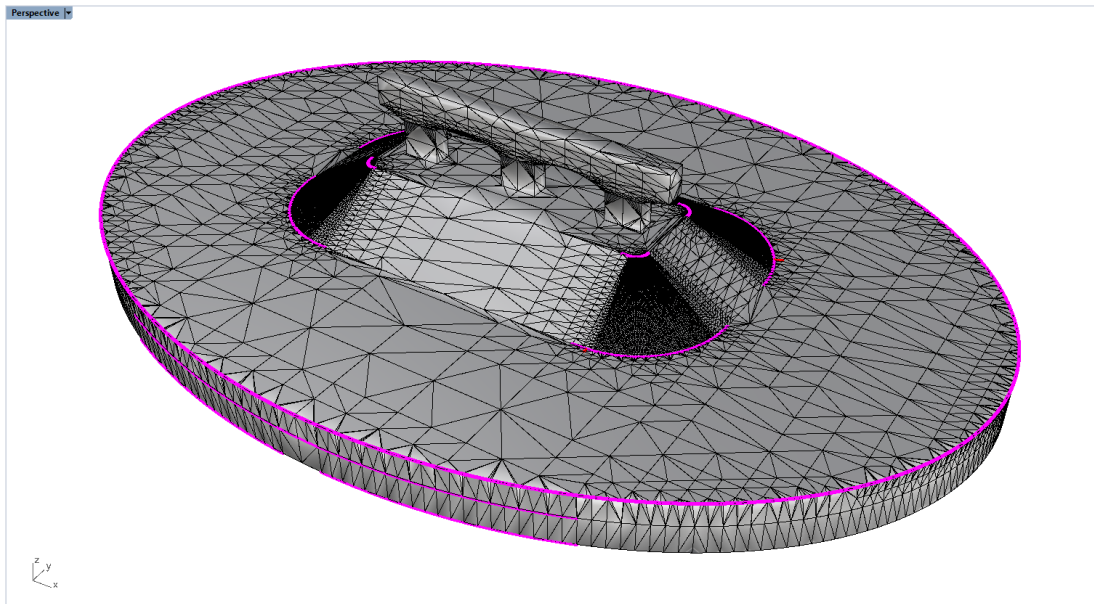
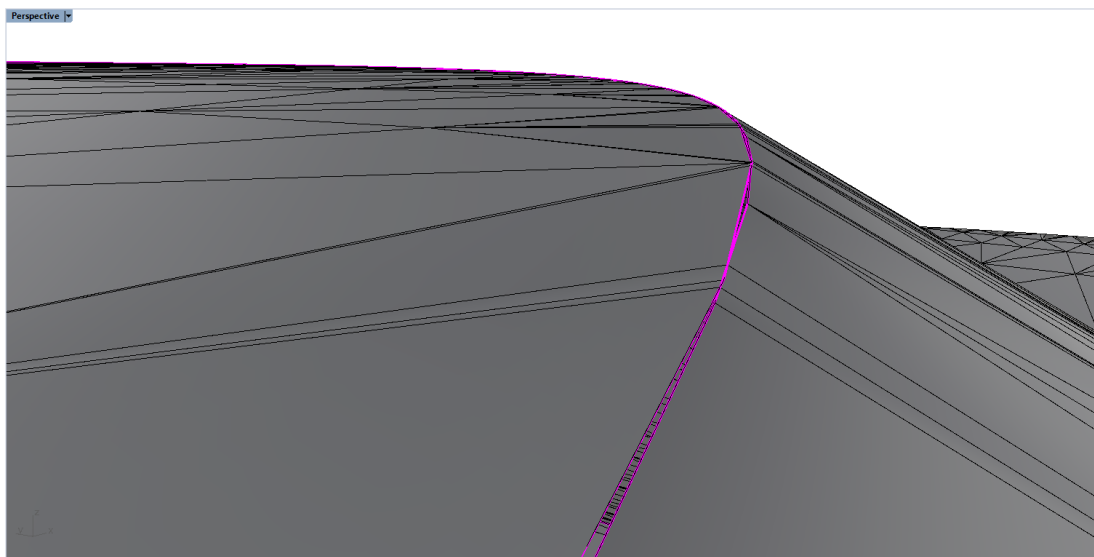

Figure 22: Naked edges (in pink) and clashing faces (red) after using *GInt* with *Tolerance* = 0.
Figure 23: Zoomed naked edges (in pink) after using *GInt* with *Tolerance* = 0. Compare with Figure 21.
8. To check if there are any gaps or non-conformal edges/faces left, select the output mesh and type **_GHeal** or click on the  icon in the *Griddle* toolbar. Select the *ShowErrors* option, which will create two new layers, “NAKED_EDGES” and “CLASHING_FACES”, containing outlines of open mesh boundaries (e.g., internal holes) and non-conformal faces. The results show that there is a large number of gaps and some non-conformal faces (Figure 22 and Figure 23). This is because **GInt** *Tolerance* was set to 0 to intersect only those mesh faces that are in full contact. Naked edges can also be visualized with *Rhino*’s **_ShowEdges** command.